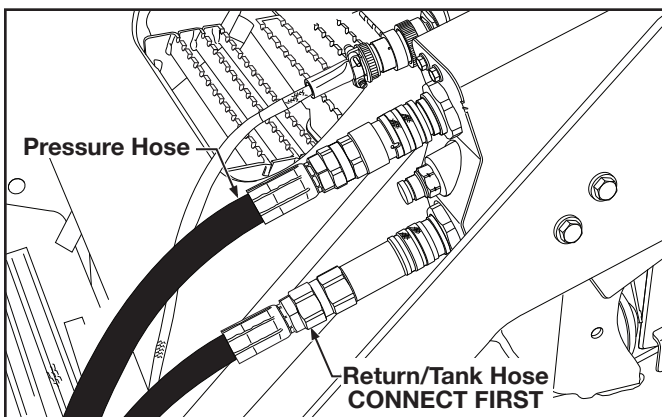

Figure 1-3. Hydraulic Hose Connections to Skid Steer
*NOTE: Most loaders have the ability to reverse the hydraulic flow to the quick couplers. Care must be taken that the flow is always engaged the correct direction. (Refer to Figure 1-3.)*